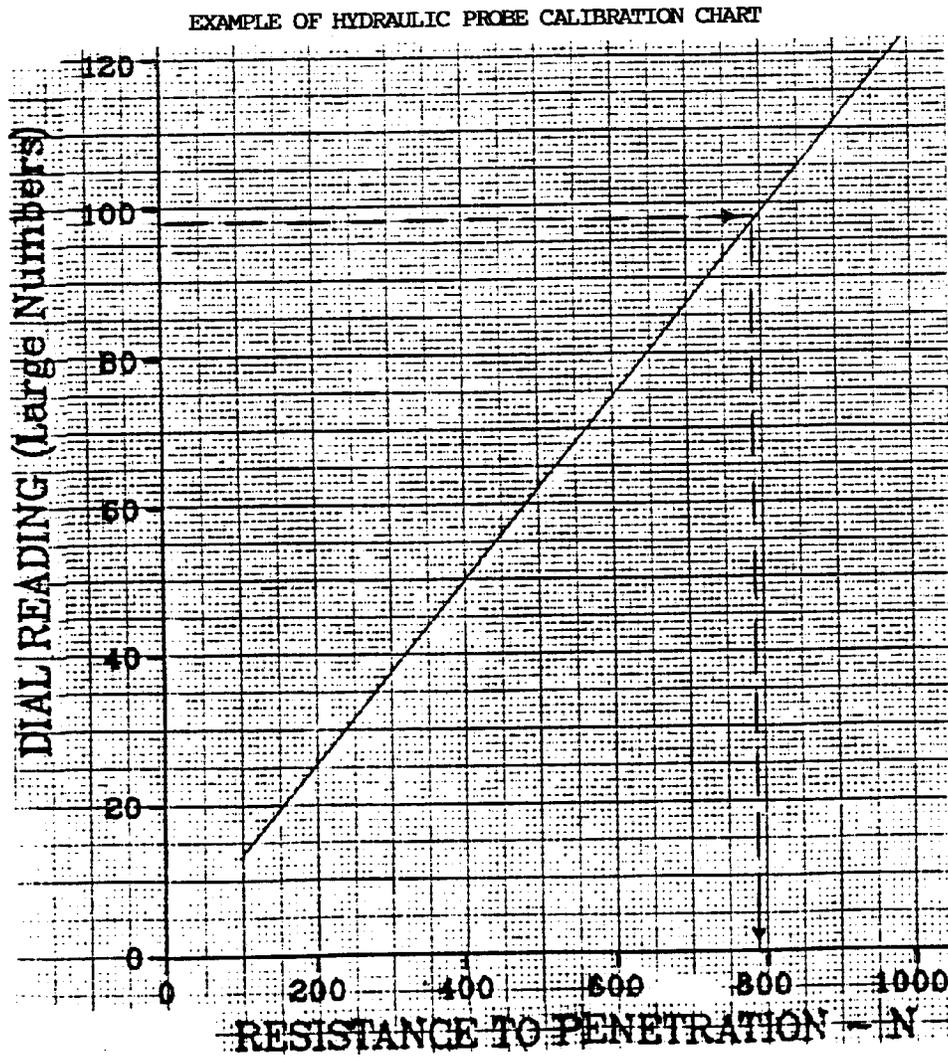

Figure 3
5. Plot the hydraulic probe gauge reading on the vertical scale of the calibration chart as shown in Figure 3. Pick off the horizontal scale of the chart the Resistance to Penetration in Newtons. For the spring type probe, the reading in pounds (or Newtons) is taken directly from the gauge.